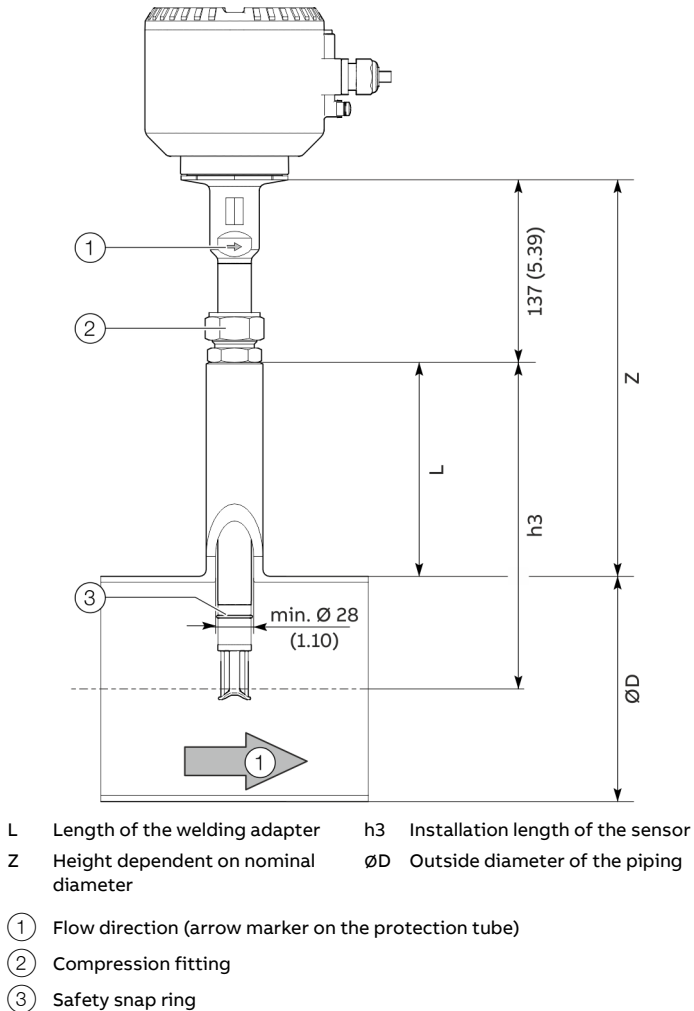

Figure 18: Calculating mounting dimensions
3. Move the sensor to the correct height for the calculated 'Z' dimension (see Figure 18) and secure the compression fitting against shifting by tightening the union nut by hand.